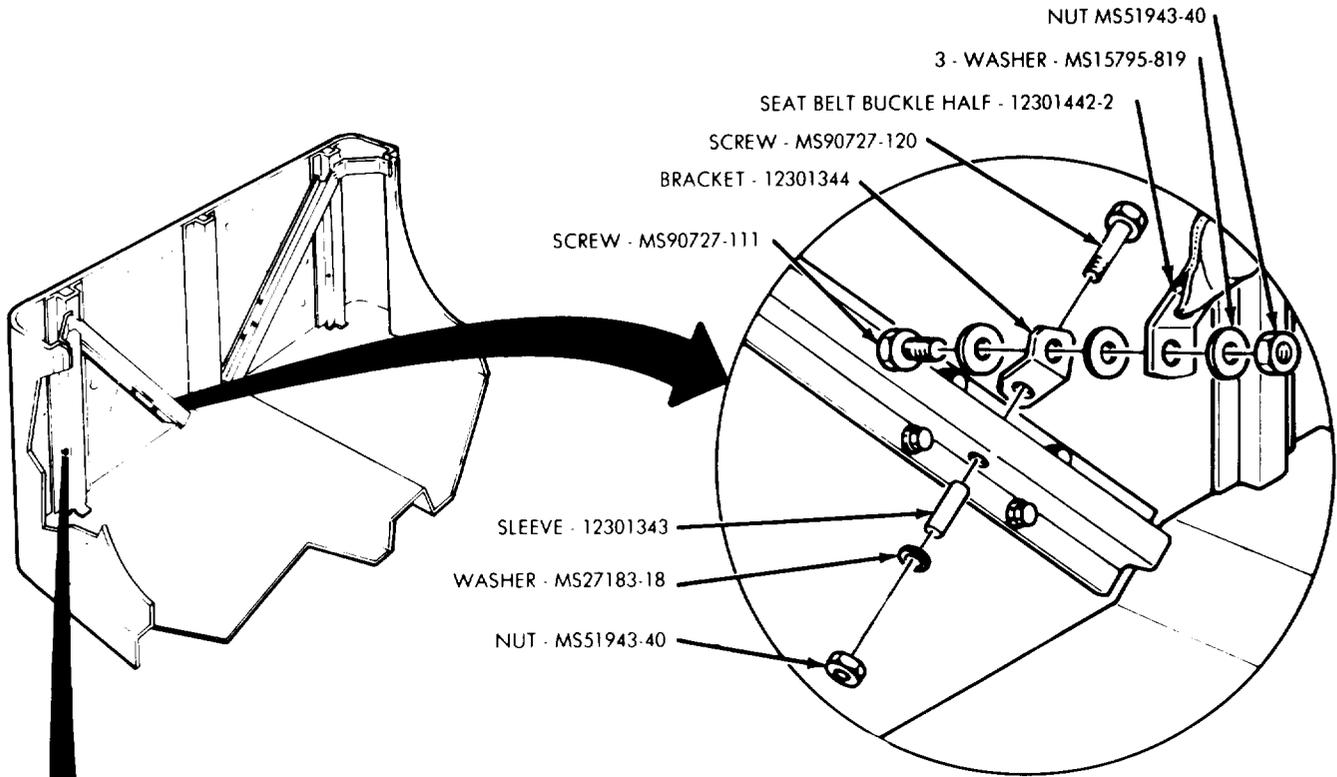

Figure B-10. Companion Seat Belt Buckle Half Installation
a. Install 12301343 sleeve in hole of right diagonal cab channel member and position 12301344 bracket to upper side of channel member. Secure bracket to channel member with MS90727-120 screw, MS27183-18 washer, and MS51943-40 nut as shown in figure B-10. Tighten nut 20-25 lb-ft (27-34 N•m).
b. Position 12301442-2 seat belt buckle half on bracket and secure with MS90727-111 screw, three MS15795-819 washers, and MS51943-40 nut as shown in figure B-10. Tighten nut 20-25 lb-ft (27-34 N•m).